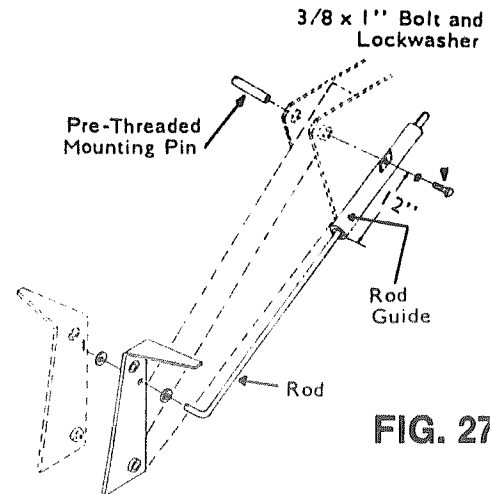

FIG. 27
1. The Kubota material bucket will be pre-drilled with a 9/16" (14mm) hole in the right inside bucket gusset. (Position shown in Figure 27.)